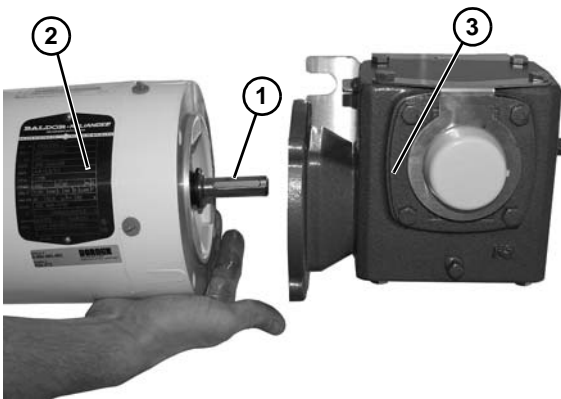

Figure 25
12. With key (Figure 25, item 1) in keyway, slide motor (Figure 25, item 2) and gear reducer (Figure 25, item 3) together.